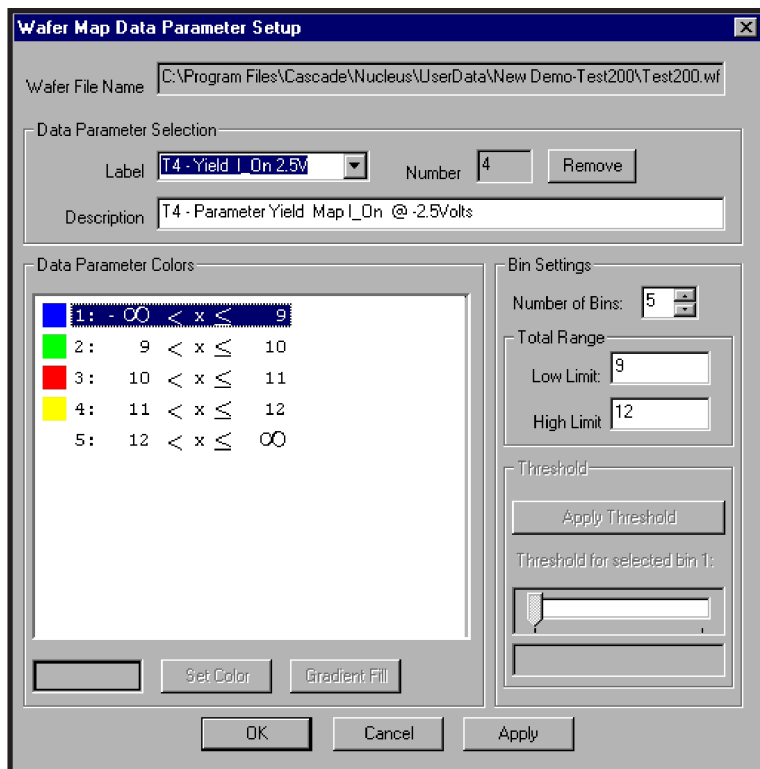

Figure 3.
1. Open the *Wafer Map Data Parameter Setup* dialog from the wafer map menu (**Figure 3**).